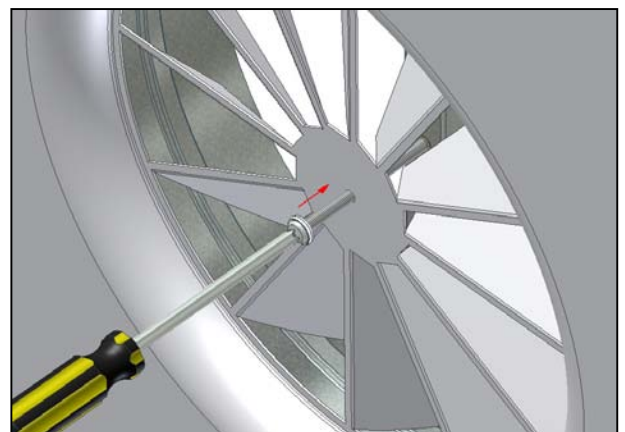

Figure 10: Screw Diffuser to Duct Collar
3. Remove the plastic cap from the fixing screw supplied. Stand the Diffuser on edge whilst still holding the Duct Collar in place, then insert the fixing screw and secure the Diffuser to the Duct Collar as shown in figure 10. Take care not to over tighten the screw as this could distort to the Diffuser face.